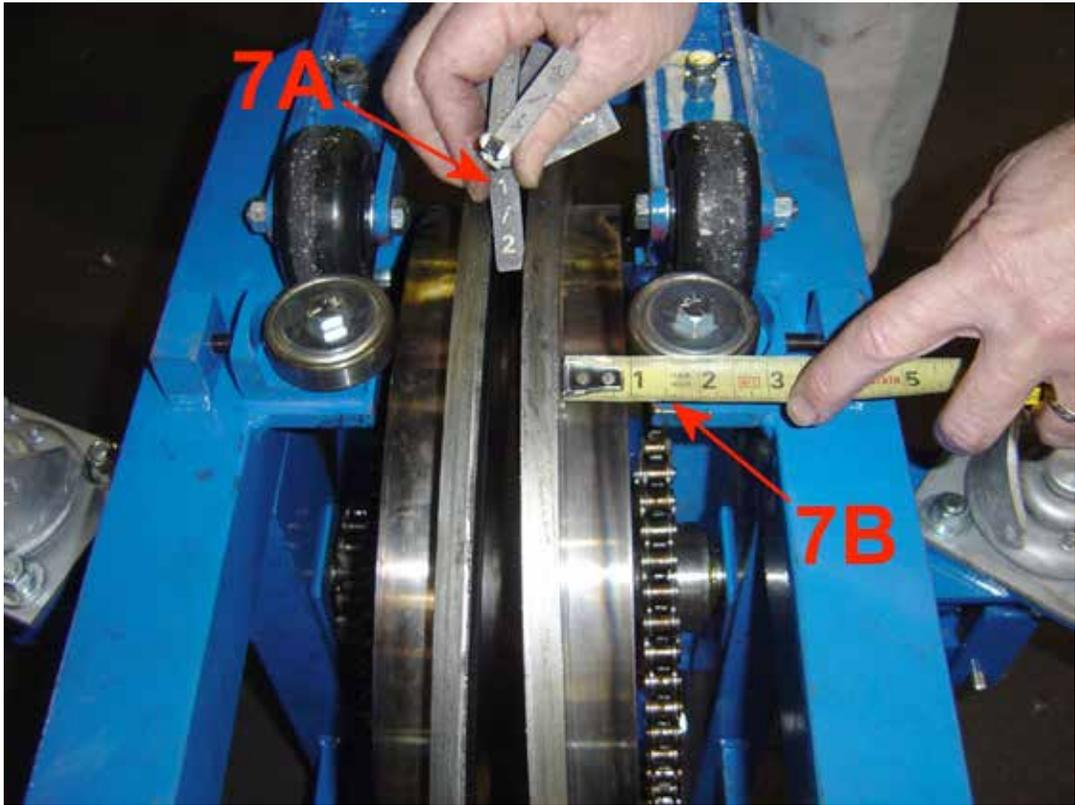

Figure 7 Adjusting Compression Blades
11. Slide the compression blades toward/away from each other until they are approximately 1/16" narrower than the measured width of the joint. Use Table 2 as a guide when adjusting compression wheel gap settings for nominal seal sizes. A complete set of gauge blocks (7A) have been provided with the Delastall Kompressor to assist with gap setup. Be sure to keep the compression blades in the center of the frame. This can be accomplished by measuring the distance from the inside face of the compression blade to the inside edge of the lower frame angle, as shown in Figure 7, item B. This measurement should be used as the main setup reference.